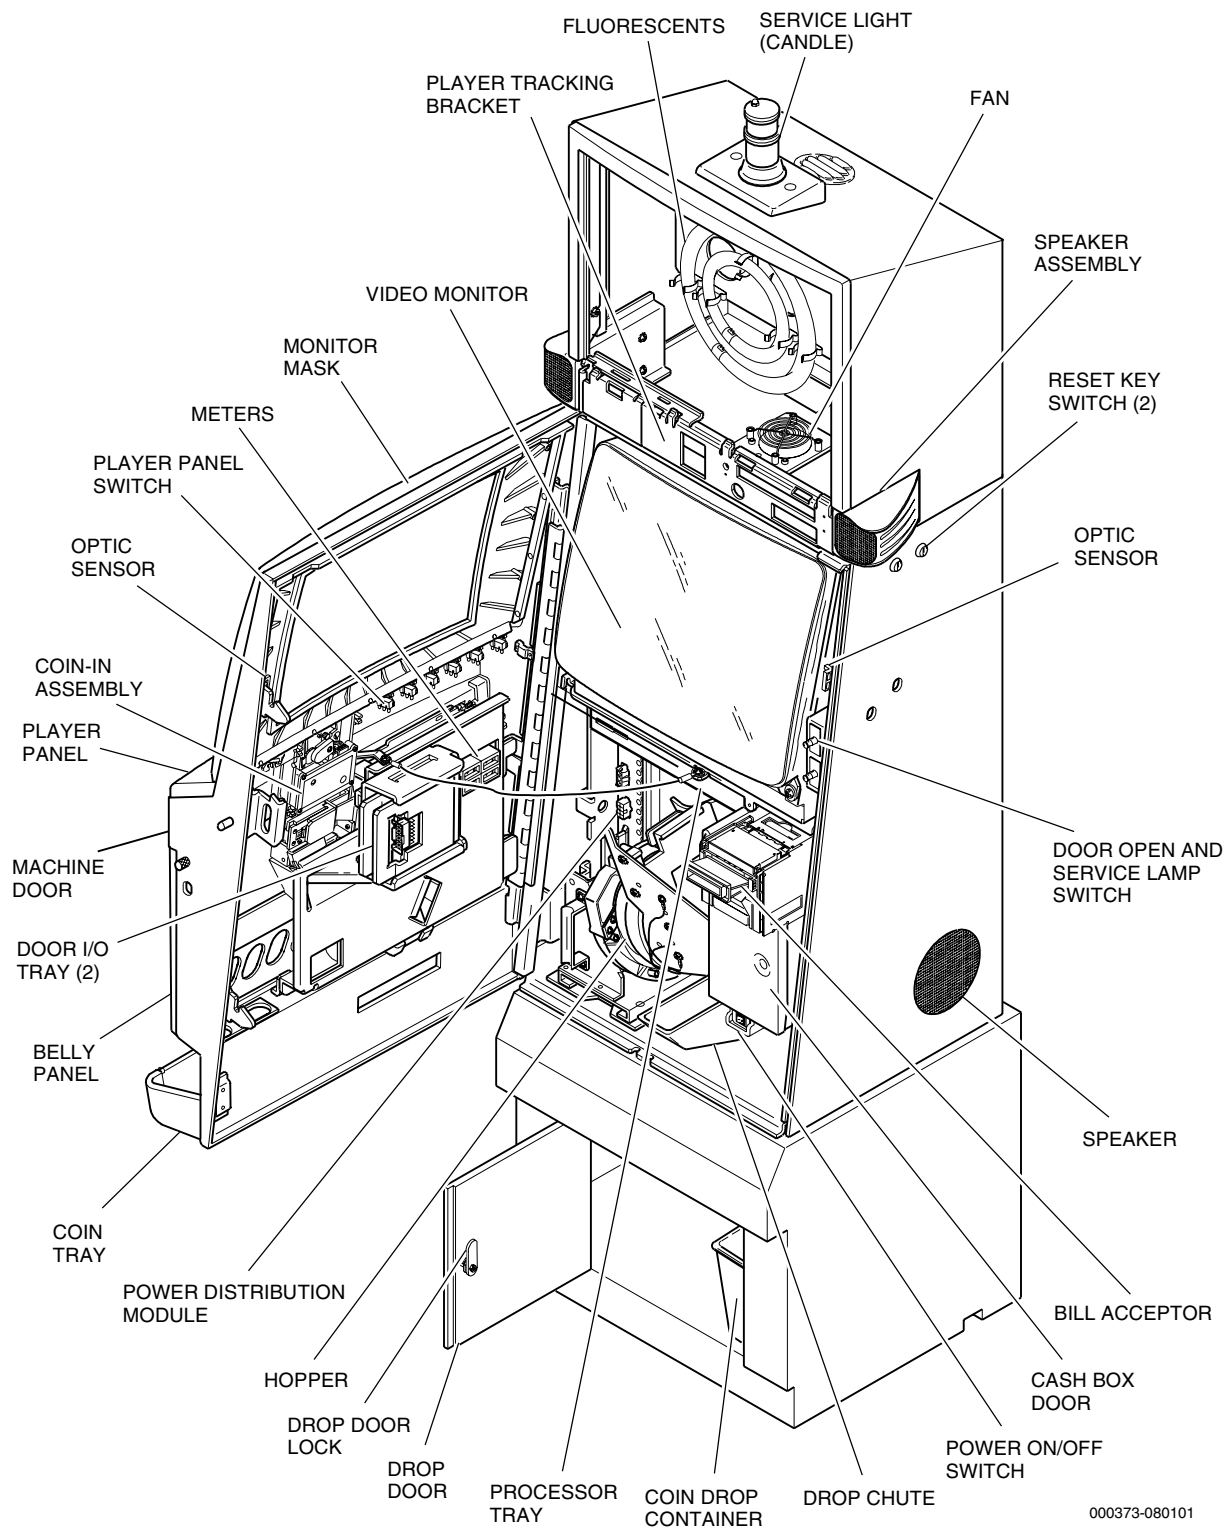

Figure 1-1. Component Identification - Game King Plus 19" Upright.
For a summary of functional assemblies, refer to Table 1-1. See Figure 1-1 to identify the machine components.
2. Disconnect the door-open optic harness located behind the door-open and service lamp switch (see Figure 1-1).